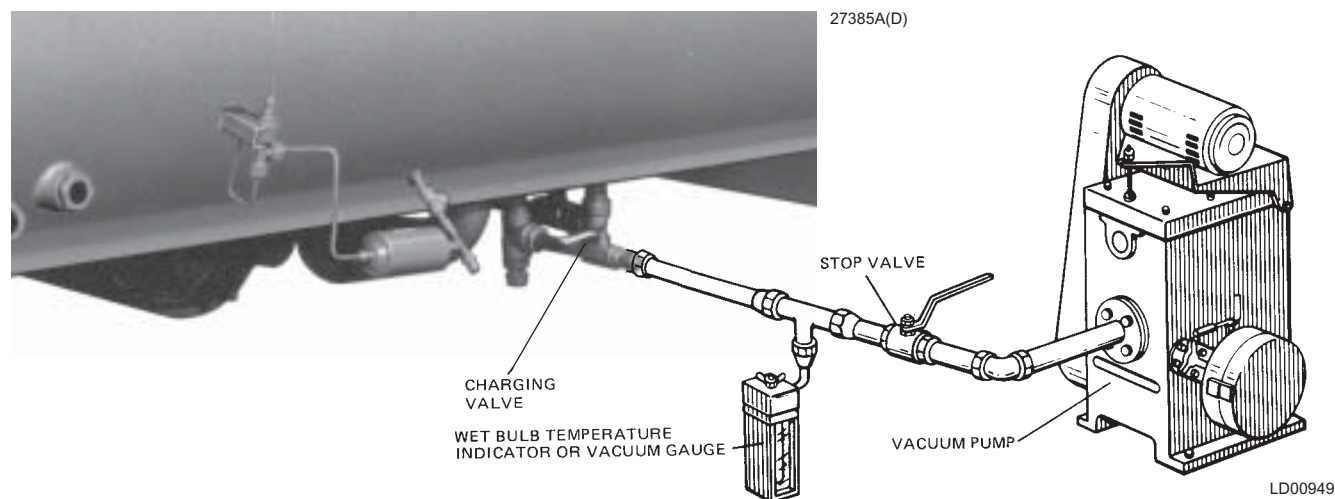

FIG. 11 – EVACUATION OF CHILLER
1. Connect a high capacity vacuum pump, with indicator, to the system charging valve as shown in Fig. 11 and start the pump. (See "Vacuum Dehydration".)